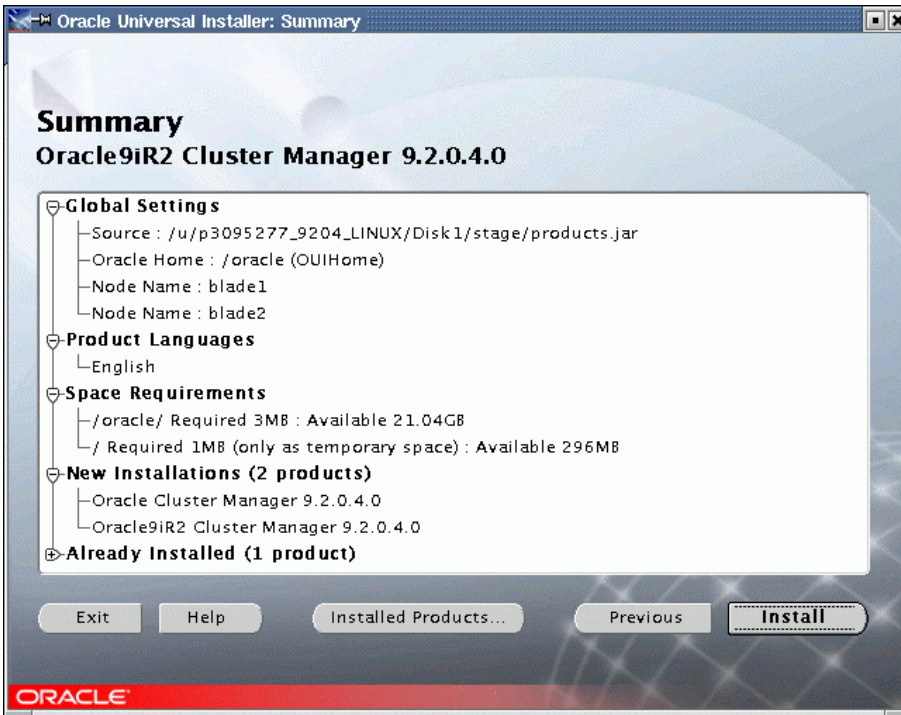

Figure 62. Summary
5. A Summary screen displays next, shown in Figure 62. Click **Install** to begin the installation. A progress screen is displayed, followed by the End of Installation screen. Click **Exit**, then **Yes** on the confirmation window.